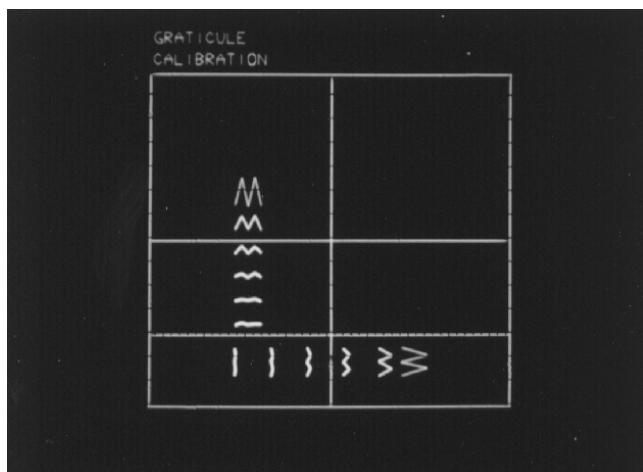

Fig. 6-14 Test grid, D/A-converter check
c. D/A-converter check (see figure 6-14).